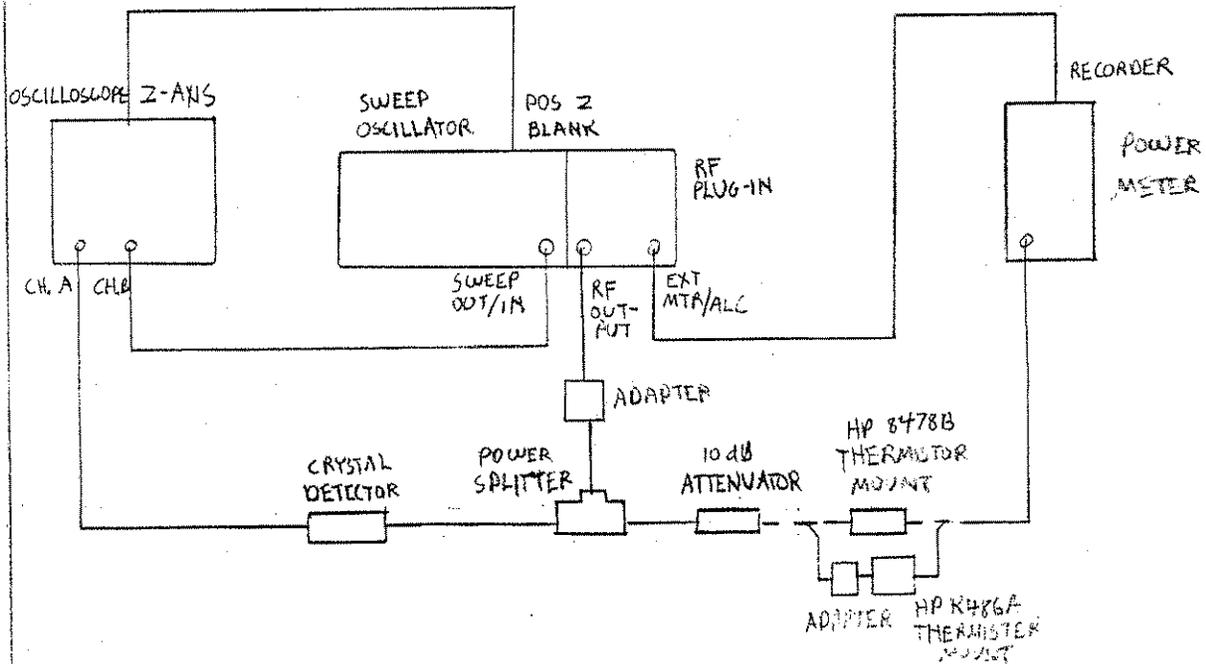
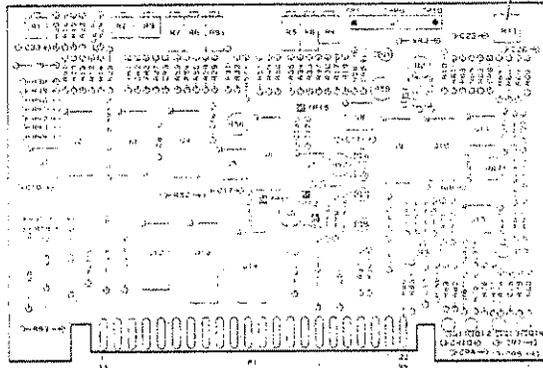

Figure 5-34. ALC Gain Adjustment Test Setup
Figure 5-35 ALC Gain Adjustment Location
1. Connect the equipment as shown in Figure 5-34 with the 8478B Thermistor Mount connected to the Power Splitter. Preset A4R11 (GAIN) fully clockwise. Refer to Figure 5-35 for the adjustment location. Allow the equipment to warm up for 1 hour.